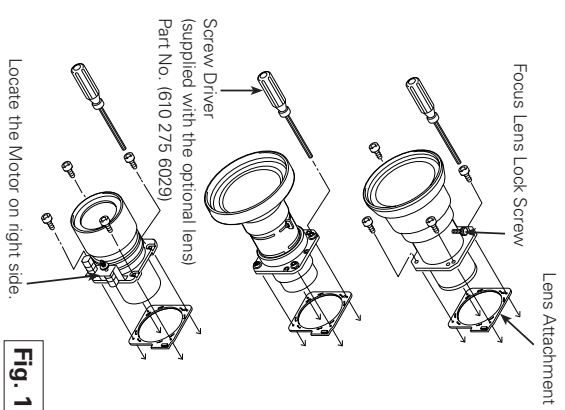
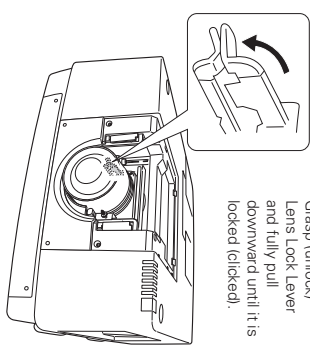

Fig. 1
Fig. 7
1 Remove the safety lens cap on the front and rear of the lens (mounting side). Insert the Lens Attachment and secure with the four (4) screws (supplied). (See Fig. 1)
7 Grasp (release lock) the Lens Lock Lever and turn it fully upward. (See Fig. 6) Install the Lens into the projector. Grasp the Lens Lock Lever and turn the Lever fully downward until lever is Locked (clicked position) properly. (See Fig. 7) When installing the Motor Driven Lens, be sure to mount Lens Motor on right side. (See Fig. 1)
Set up the projector and project image on a screen. Loosen the Focus Lens Lock Screw and rotate the Projection Lens to obtain proper focus. After adjusting focus, be sure to lock the Projection Lens with the Focus Lens Lock Screw securely. (See Fig. 1)